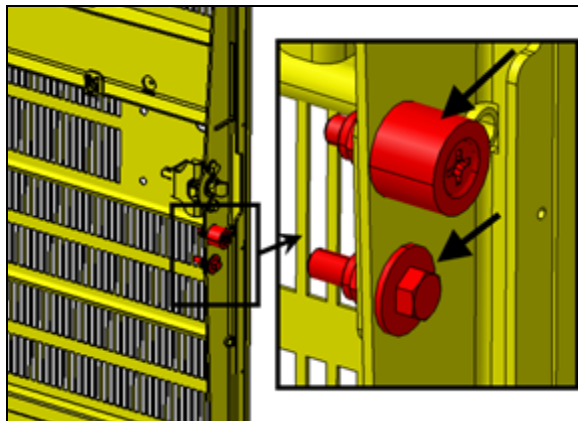

FIGURE 58
10. Check that the two items identified with arrows are snug but not tight (FIGURE 58).